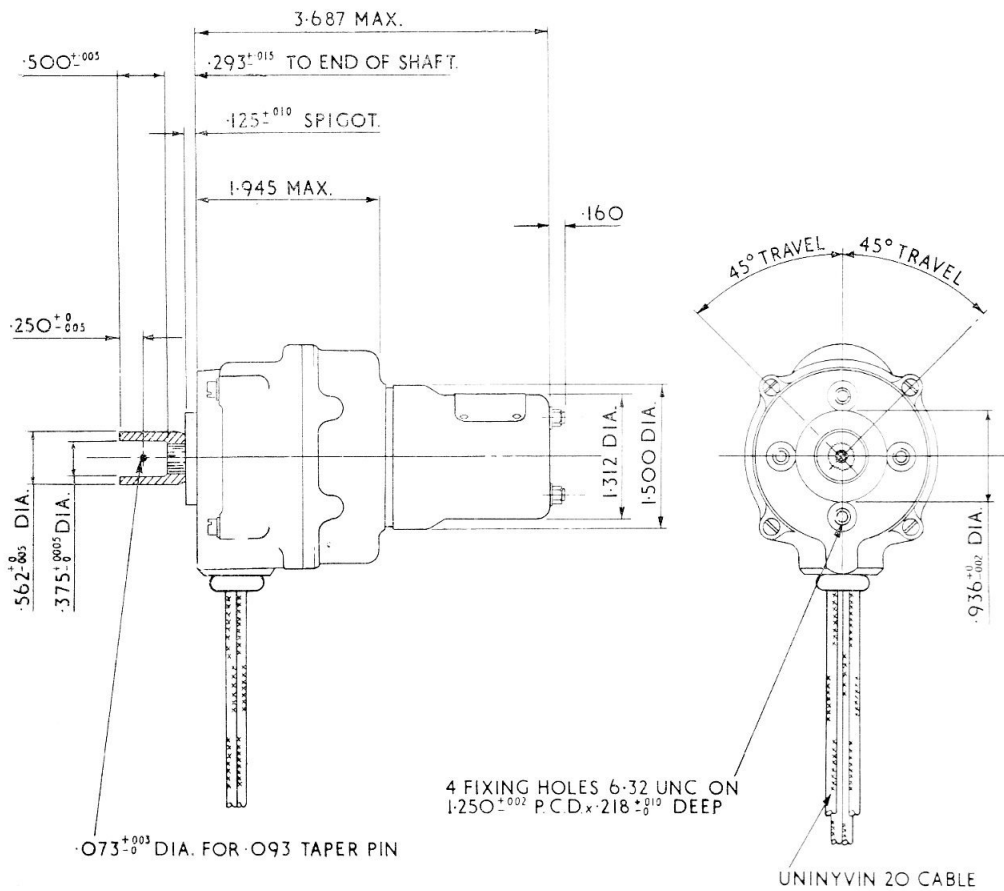

Fig. 2. Installation details
3. Information given in the main chapter regarding installation and servicing is applicable to this actuator. For details of installation in a particular aircraft, reference must be made to the relevant Aircraft Handbook. An installation diagram is shown in fig. 2.